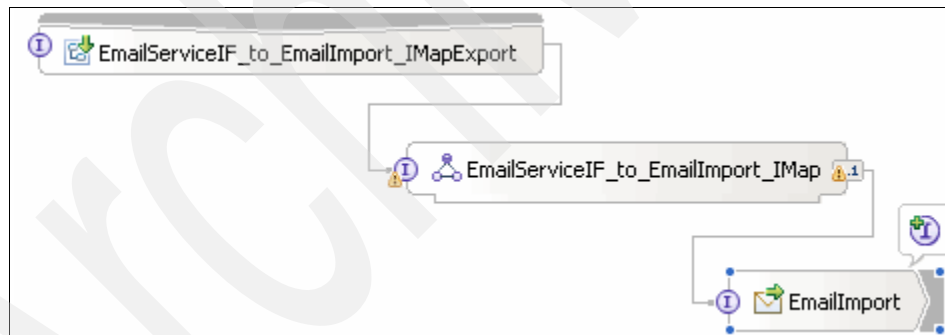

Figure 3-241 EmailOutbound assembly diagram with interface map and export
1. Right-click **EmailServiceIF\_to\_EmailImport\_Imap** and select **Generate Export** → **SCA Binding** as shown in Figure 3-241.